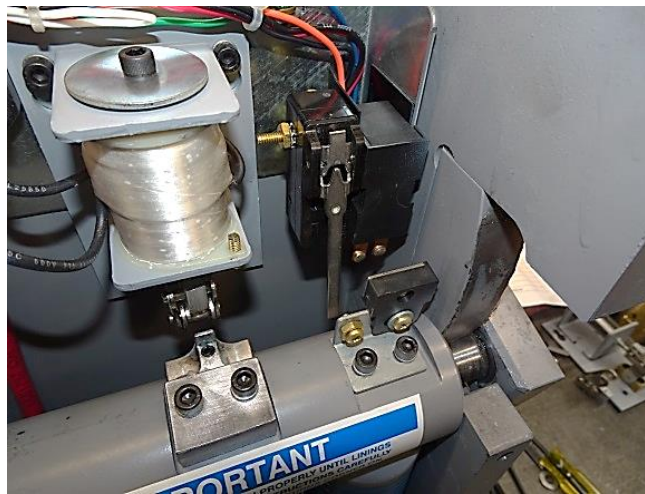

Figure 9: New Generation Rope Gripper® Microswitch Arrangement, shown for informational purposes only.
2. Pictures in this instruction were taken using older generation Rope Gripper®. Switch arrangements may differ on current generation Rope Gripper® (see Figure 9).